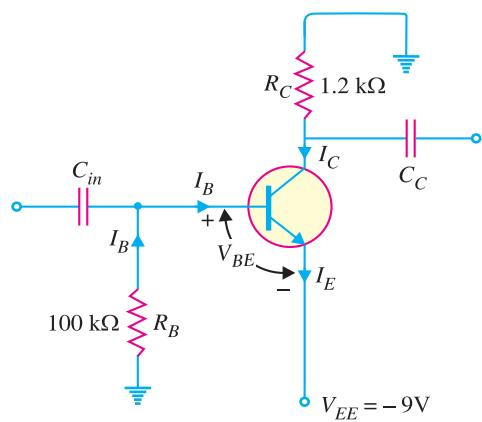

Fig. 9.42
**Example 9.34.** Find the operating point for the circuit shown in Fig. 9.42. Assume  $\beta = 45$  and  $V_{BE} = 0.7V$ .